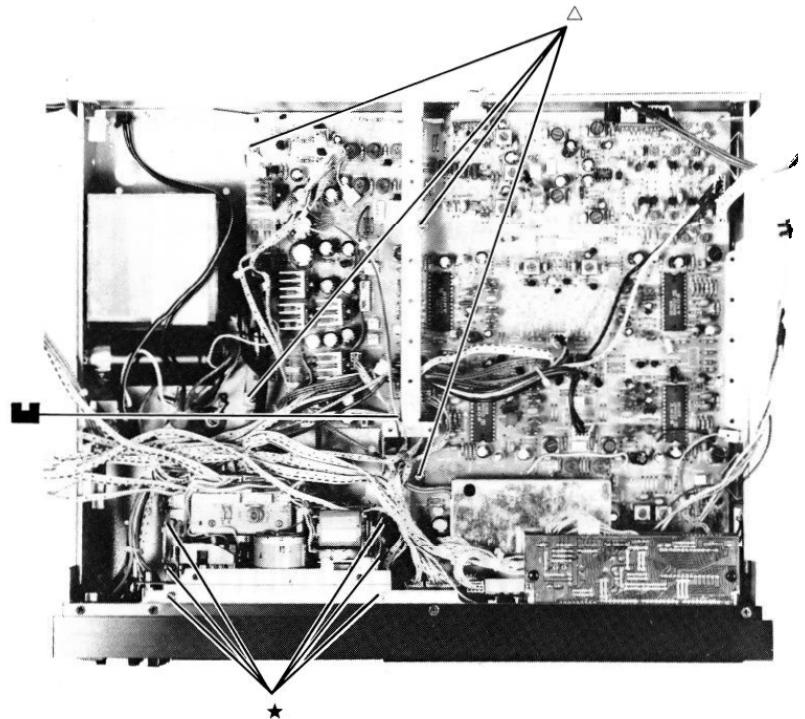

Figure 7
- (1) Remove twelve screws marked "■" as shown in Figures 7 and 8-1.
- (2) Disconnect all connectors from the P.C. Boards.
- (2) Remove four screws marked "△" as shown in Figure 7.
- (3) Disconnect all connectors from the P.C. Board.
- (1) After removal of Mother P.C. Board, remove six screws marked "★" as shown in Figure 7.
- (2) Disconnect all wires from the P.C. Board.